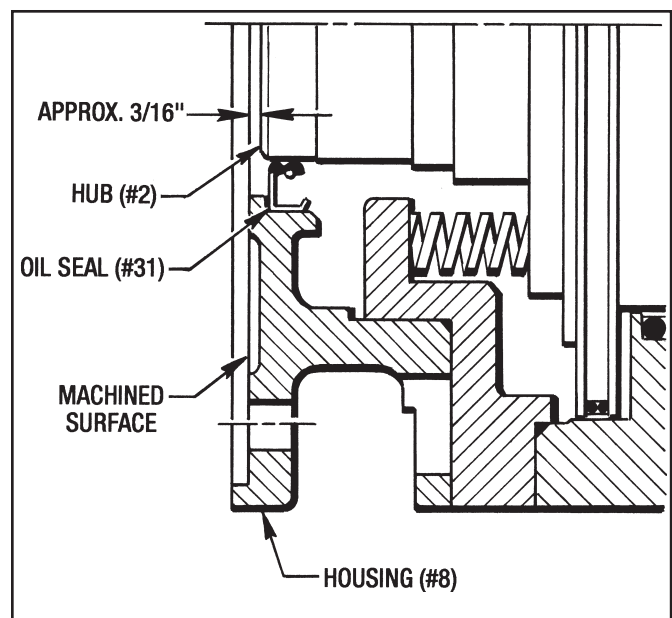

Figure 3.2 - Hub Alignment
3. Remove the Fan Shroud (#24) by taking out the (4) Screws (#166) and (4) Lockwashers (#167).
4. Align the Hub (#2) approx. 3/16" from the machined surface of the motor mounting flange as shown in Figure 3.2.